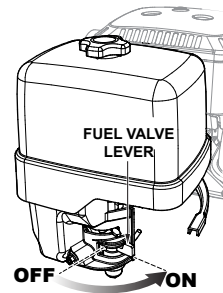

Figure 22. Engine Fuel Valve Lever (ON Position)
- Place the engine fuel valve lever (Figure 22) to the "ON" position.